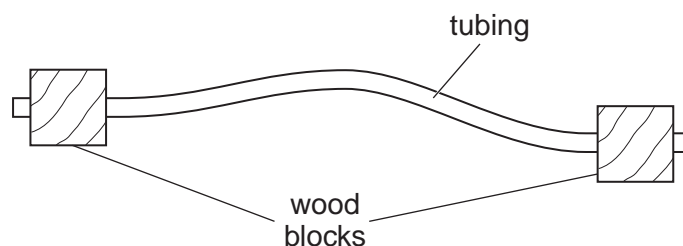

Fig. 2.1
- 2 A hole should be drilled through each block of wood and one end of the tubing pushed through the hole so that it projects about 0.5 cm, as shown in Fig. 2.1.